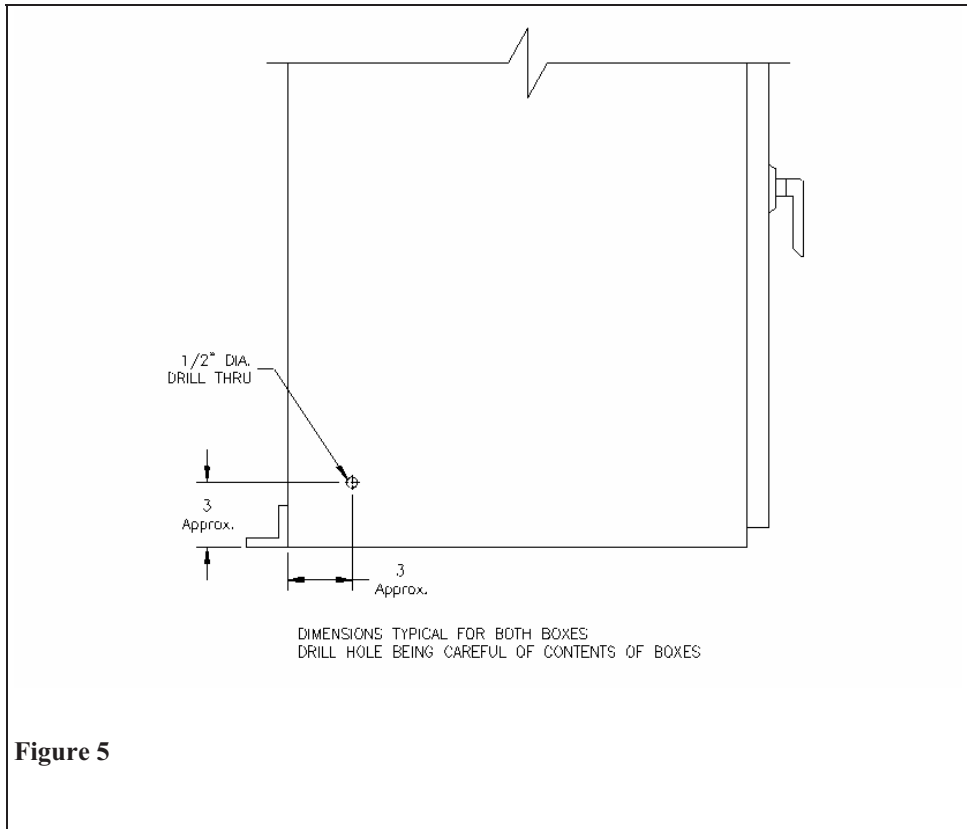
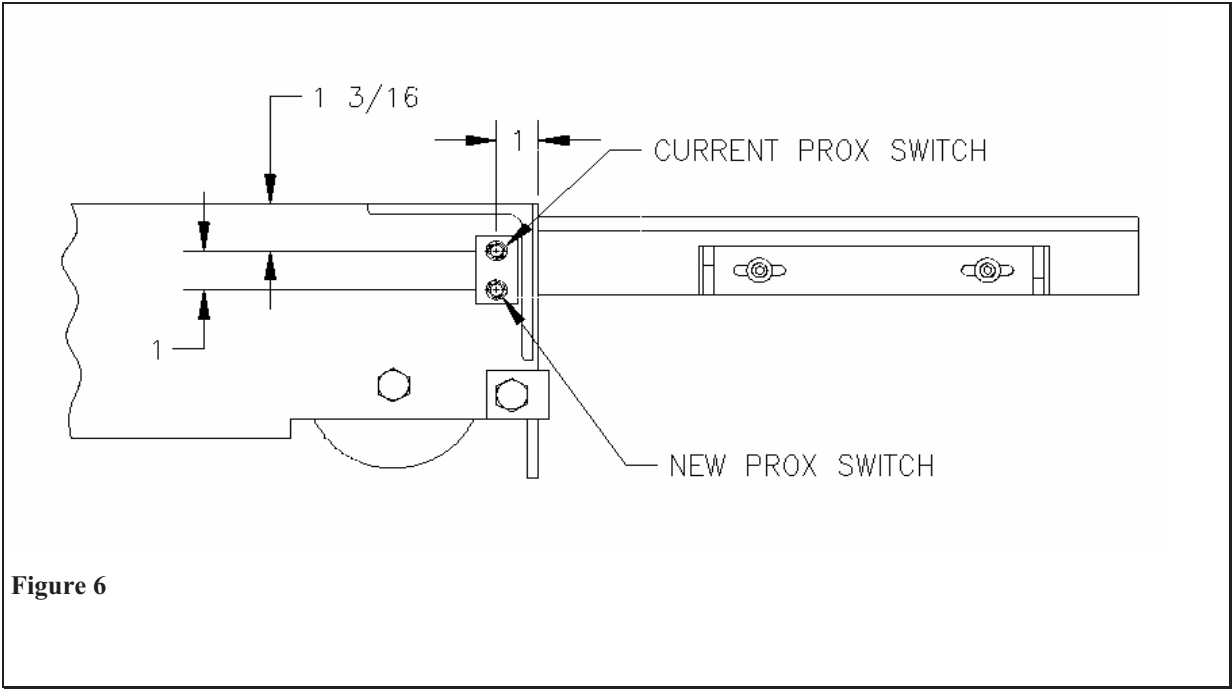
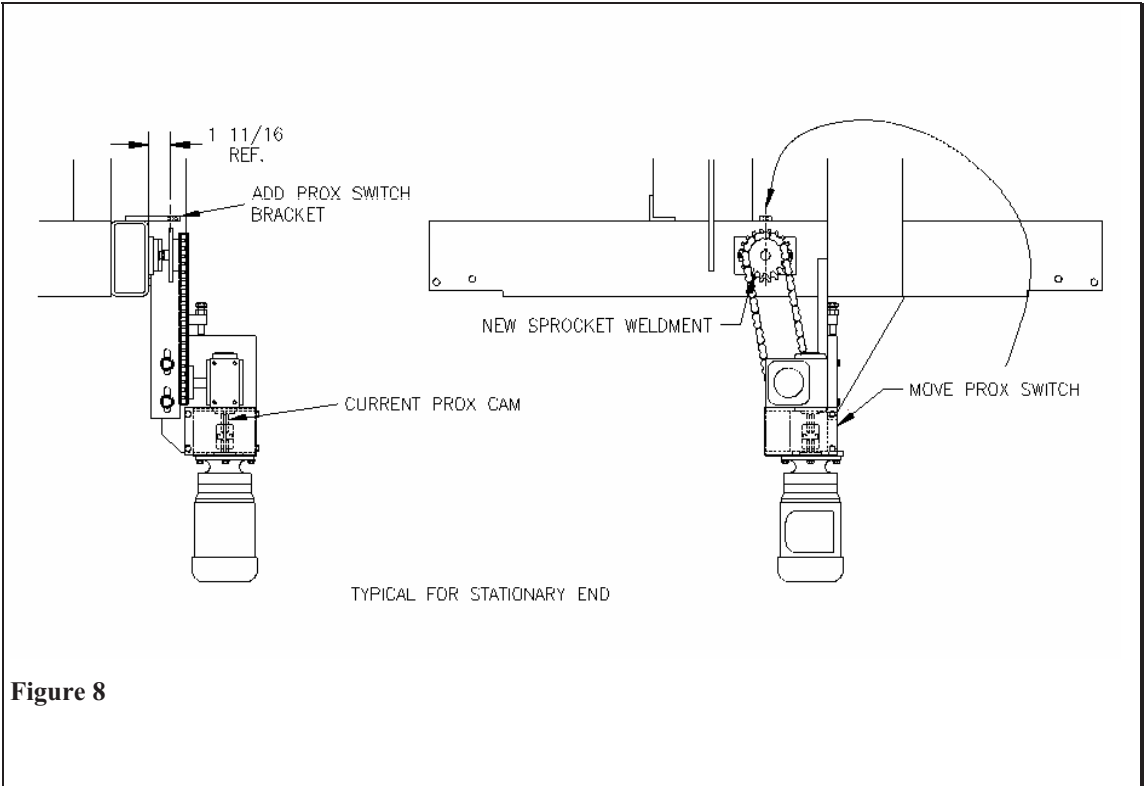

Figure 5
Figure 6
Figure 8
7. To improve accuracy of infeeds, an extra proximity switch and new prox target is to be added to the stationary and carriage infeeds. **See Figures 6 & 7.** The prox cam in the powered infeed brackets is to be replaced with a counting sprocket weldment. **See Figure 8.** A 1/2" hole needs to be drilled in the rear side of both control panels for the cord grip connector. **See Figure 5.** Wire new stationary end prox to terminal block labeled **I89.** Wire new carriage end prox to terminal block labeled **I183.** **The calibration distance from blade at 90° to inside edge of lumber conveyor shall be 10".**